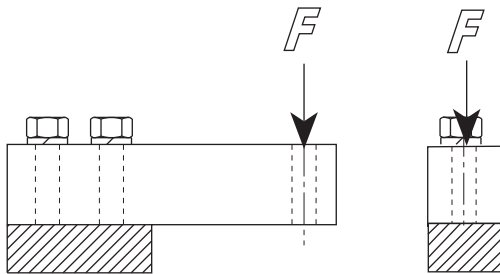

Figure 14-1.
- The load should be applied vertically through the center line of the load hole (the load may be applied from above, as illustrated in Figure 14-1, or may be hung from below).